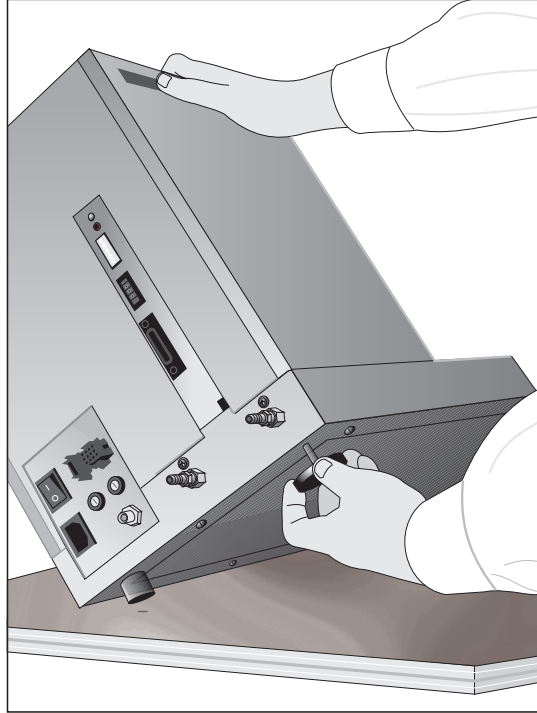

Figure 2.3
7. Have your assistant lift one side of the unit while you install two mounting feet on one side (see Figure 2.3). Screw in about 1/4-inch of the threaded mounting post into the unit. Rotate the unit and install the two remaining mounting feet on the unit in the same manner.